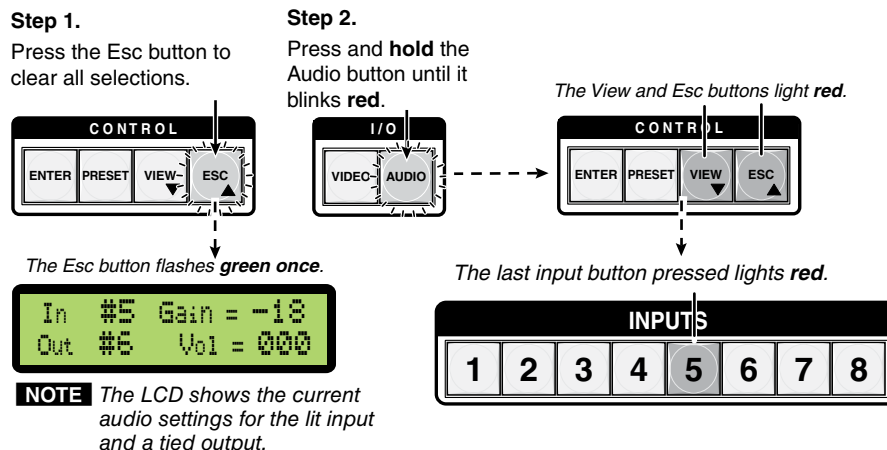

Figure 3-25 — Steps 1 and 2 for viewing the audio settings
2. Press and hold the Audio button for 3 seconds, until it flashes **red**. The View, Esc, and one input button also lights red (see figure 3-25).
The LCD shows the input audio level (gain) for the lit input (see figure 3-25), and the output audio volume for the last output selected.